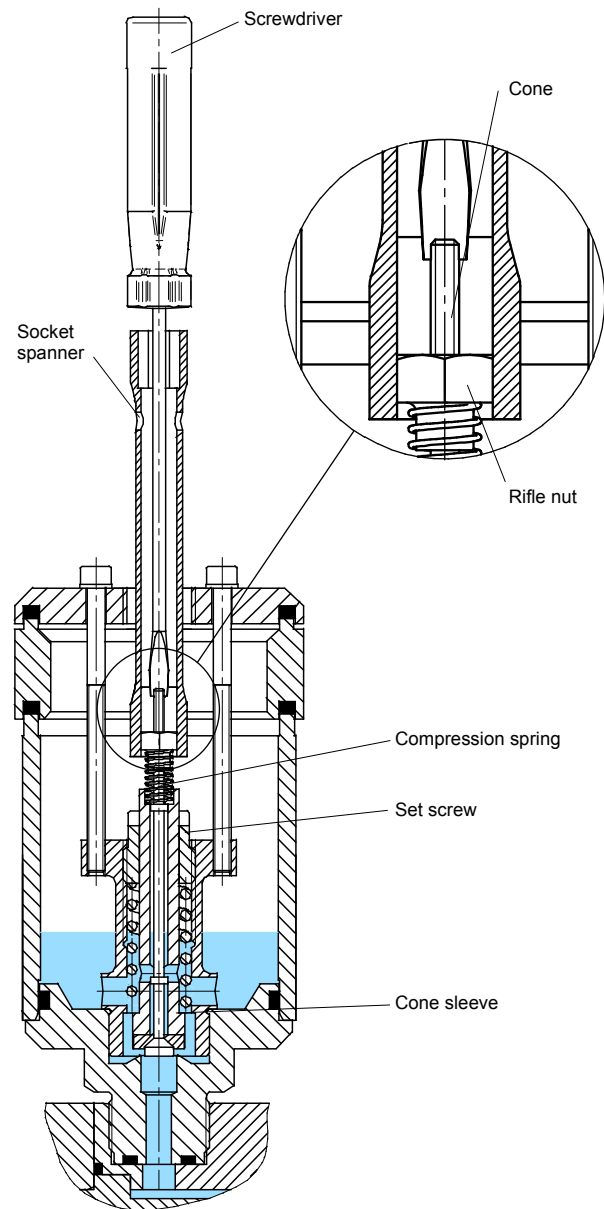

Fig. 45
- Secure cone of blow valve with a screwdriver against distortion and turn rifle nut using the socket spanner (see Fig. 45).